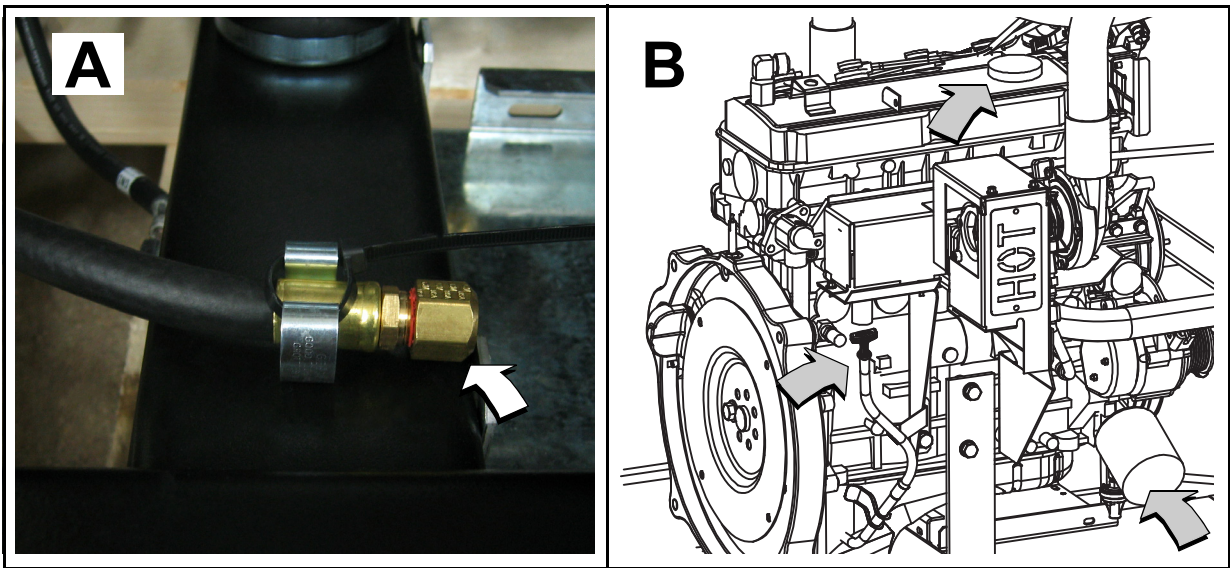

Figure 5-8. Oil Drain Hose, Fill Cap, Dipstick and Filter
- Remove oil drain hose from holding clamp. See A of Figure 5-8
- Rotate oil filter counterclockwise to remove from oil filter adapter. See B of Figure 5-8